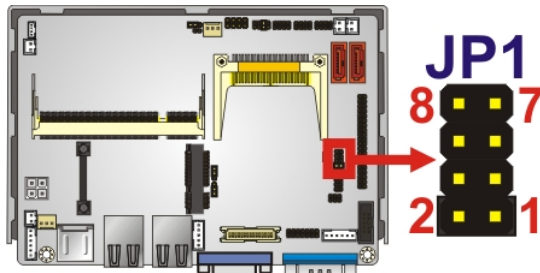

Figure 4-8: COM6 RS-232/422/485 Selection Jumper Location
- Jumper Location:** See Figure 4-8